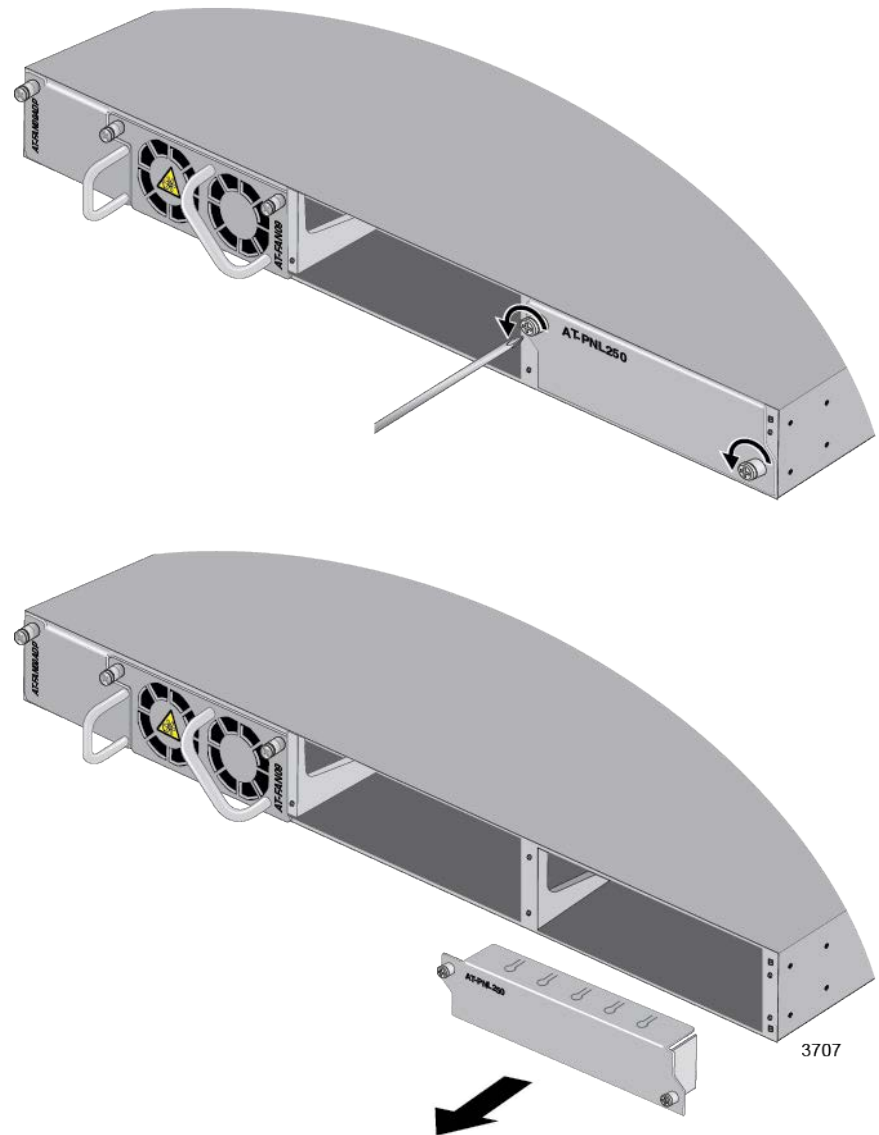

Figure 22. Removing the Blank Panel
2. Use a cross-head screwdriver to loosen the two captive screws on the blank panel covering power supply slot B on the back panel and remove it from the switch. Refer to Figure 22 on page 75.